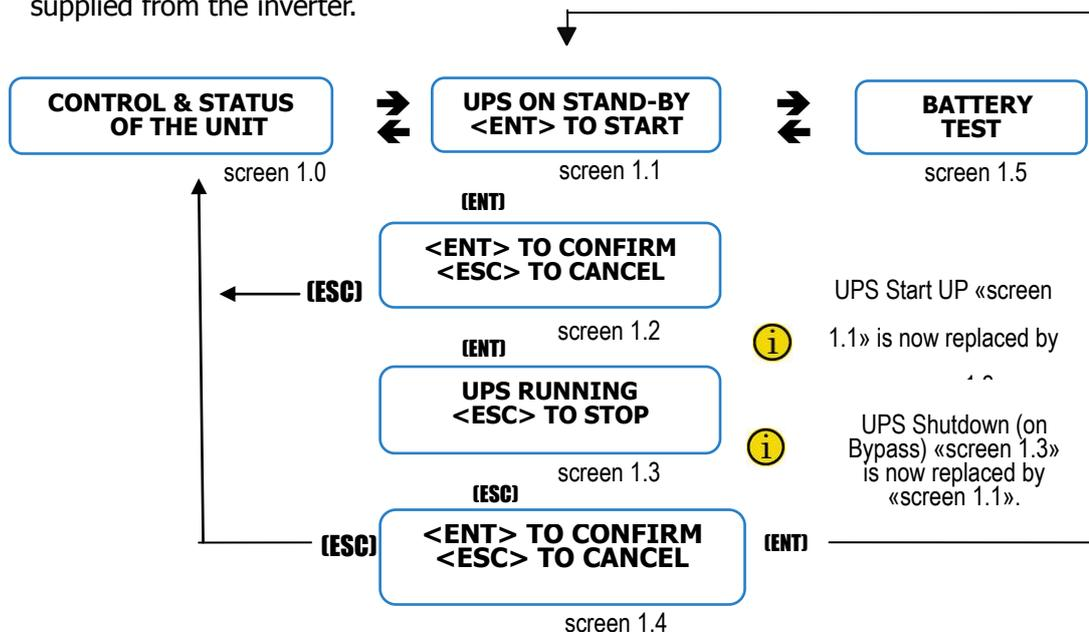
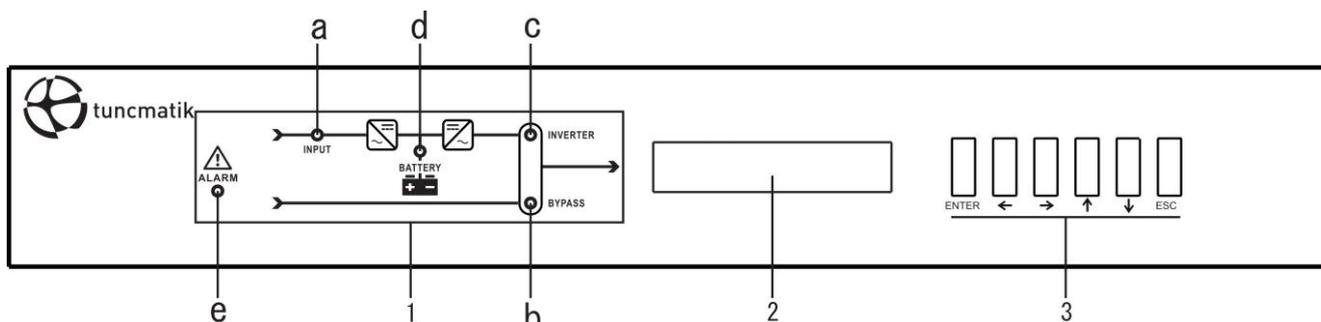

Fig..25. Procedure start-up / shutdown.
Fig..26. LED indications control panel (PC)
At this point, with no alarm active, green LED indications of Input Voltage OK, and orange LED indication of Unit on Bypass should light ((**a**), (**b**) from Fig. 26)
Start up the inverter. The start up operation will be done through the keypad of the control panel ((**3**) from Fig. 26). Go down to «CONTROL & STATUS OF THE UNIT» submenu (screen 1.0), and then right only once. You will get to screen 1.1, asking you to start the unit up by pressing (**ENT**). Do so, and then confirm operation by pressing (**ENT**) again. See following screen diagram (Fig. 25).
- Before continuing, be sure that the LED indication (c) Inverter is working is lit (green), and (b) Unit on Bypass is turned OFF (see Fig. 26). Otherwise please contact with the S.T.S. (Service and Technical Support).
- Shutdown the inverter. Through the keypad of the control panel ((**3**) from Fig. 26), go down to "CONTROL & STATUS OF THE UNIT" submenu (screen 1.0), and then right only once. You will get to screen 1.3, asking you to shutdown the unit by pressing (**ESC**). Do so, and then confirm operation by pressing (**ENT**), see Fig 25.
- Remove the mechanical block (BL) of the manual bypass switch (Q5) and set it to «On» position.
- Start up the inverter. The start up operation will be done through the keypad of the control panel ((**3**) from Fig. 26). Go down to «CONTROL & STATUS OF THE UNIT» submenu (screen 1.0), and then right only once. You will get to screen 1.1, asking you to start the unit up by pressing (**ENT**). Do so, and then confirm operation by pressing (**ENT**) again. See following screen diagram (Fig. 25).